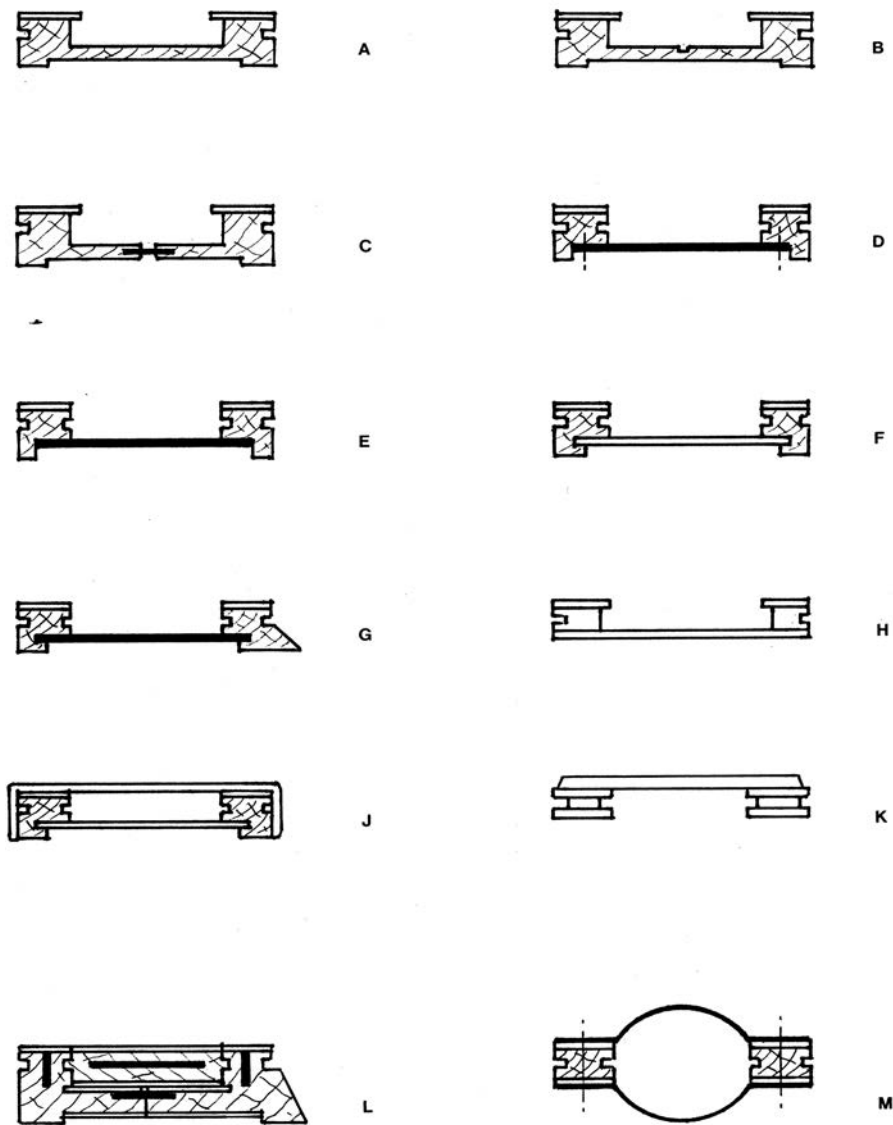

Figure 1: Cross Sections of Unique Slide Rules
The phosphor bronze spring is replaced with a plastic spring, or joining piece to the two halves of the stock (Type F, Fig 1). These are seen mainly on smaller rule such as the Jiffy,rm *Mini-Mannheim* and a number of the "specials".
All-plastic slide rules, probably produced from about 1965 to the end of production. The *J180*, *J181* series of closed-frame slide rules (Type H, Fig 1) are assumed to be the earlier variety, their date of introduction is taken from the publication date of Geerts' book - see later.
This pattern covers the *Study* range of all-plastic rules (Type K, Fig 1) which also continued to the end of production. These are open-framed - i.e. they could be duplex, though with the exception of one possible prototype, UNIQUE do not appear to have made Duplex rules.
- Figure 1, Type L illustrates a basic Type C cross section which has been modified to have tongue and groove slots for the slide and also metal strengthening inserts in stock and slide. This may have been an experimental prototype, only one example has been seen, a "Legible" rule.
- Figure 1, Type M illustrates a Duplex rule which is almost certainly an experimental design. This is made up of two type D sections glued together and then "bridged" with some very crude aluminium straps. The duplex cursor is also made by gluing together two serrated plastic cursors at one end so that they can be sprung apart for removal.